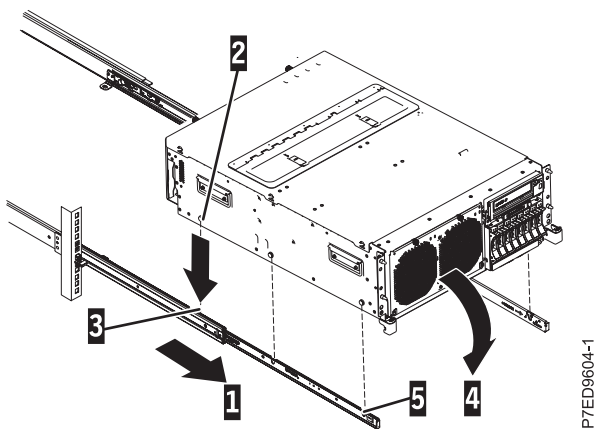

Figure 8. Extending slide rails and aligning server nail heads with the slots on the rail
7. Pull the slide rails forward (1) until they click twice into place. Carefully lift the server and tilt it into position over the slide rails so that the rear nail heads (2) on the server line up with the rear slots (3) on the slide rails. Slide the server down until the rear nail heads slip into the two rear slots, and then slowly lower the front of the server (4) until the other nail heads slip into the other slots on the slide rails. Make sure that the front latch (5) slides over the nail heads, as shown in Figure 8.